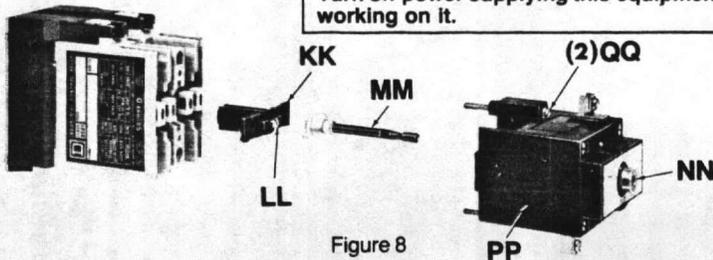

Figure 8
- If adding latch attachment to 2-4 pole relay, proceed to Step 3. If adding latch attachment to a 6-8 pole relay, remove short screw (1.25 inches) from black T-bar actuator (KK Figure 8), discard and replace with longer screw (2.50 inches) supplied separately with latch attachment.
- Install black T-bar actuator (KK) from latch attachment on relay (Figure 8). T-bar actuator is keyed for proper orientation. Tighten T-bar actuator screw (LL). Refer to Table 8 for factory recommended tightening torques.
- Push down on latch armature ring (NN) and hold (Figure 8). Slide latch attachment (PP) on to latch rod assembly (MM) and relay. Latch attachment is keyed for proper orientation. Release latch armature ring (NN).
- Tighten 2 mounting screws (QQ).
- Remove latch attachment by loosening 2 mounting screws (QQ, Figure 8), and lifting off attachment.